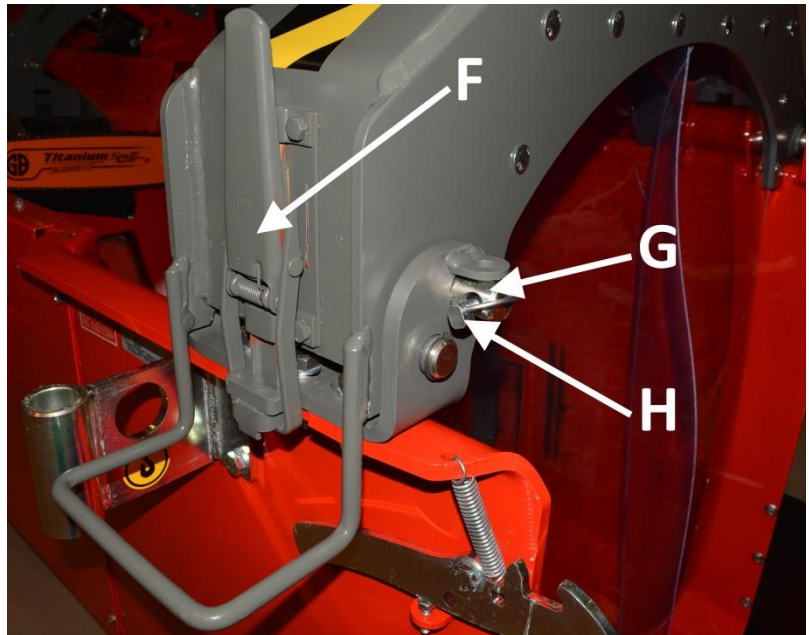

Figure 9b
7. Finally, insert support arch locking pin G and pin H, as shown in Figure 9b.